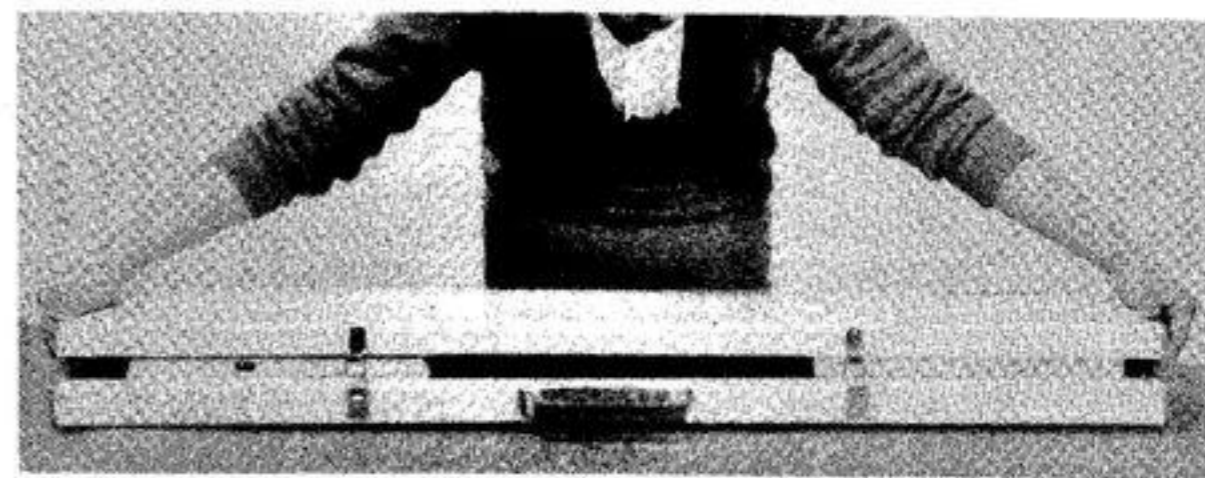

Fig. 6
2. Remove Cover, lift and pull forward. (Fig. 6)
(Fig. 6)